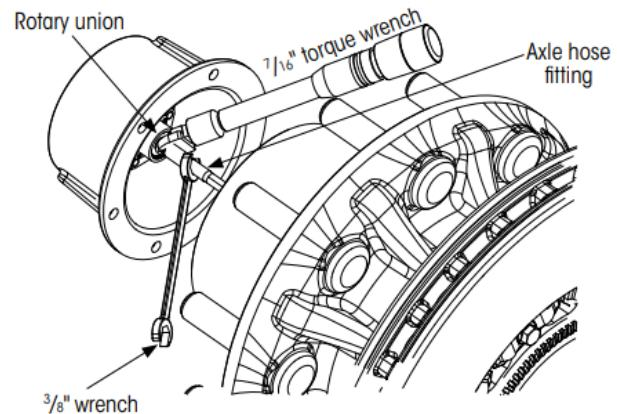

Figure 3: Hubcap to axle hose connection
1. Draw just enough axle hose out from center of spindle to attach axle hose fitting to the rotary union inside the hubcap (Figure 3)
4. Using a 3/8"-wrench to prevent rotation of the axle hose fitting, (Figure 3) tighten the rotary union shaft to 50 ± 5 in-lbs (5.7 ± 0.6 Nm) of torque